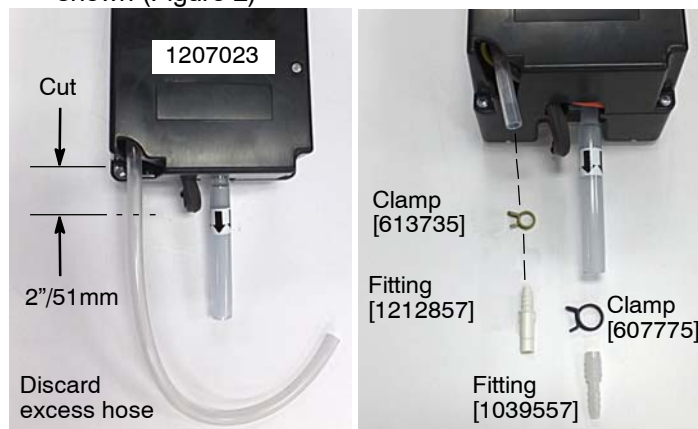

Fig. 2
1. Cut the intake hose on the ec- H2O module as specified and install hose fittings and clamps as shown (Figure 2)